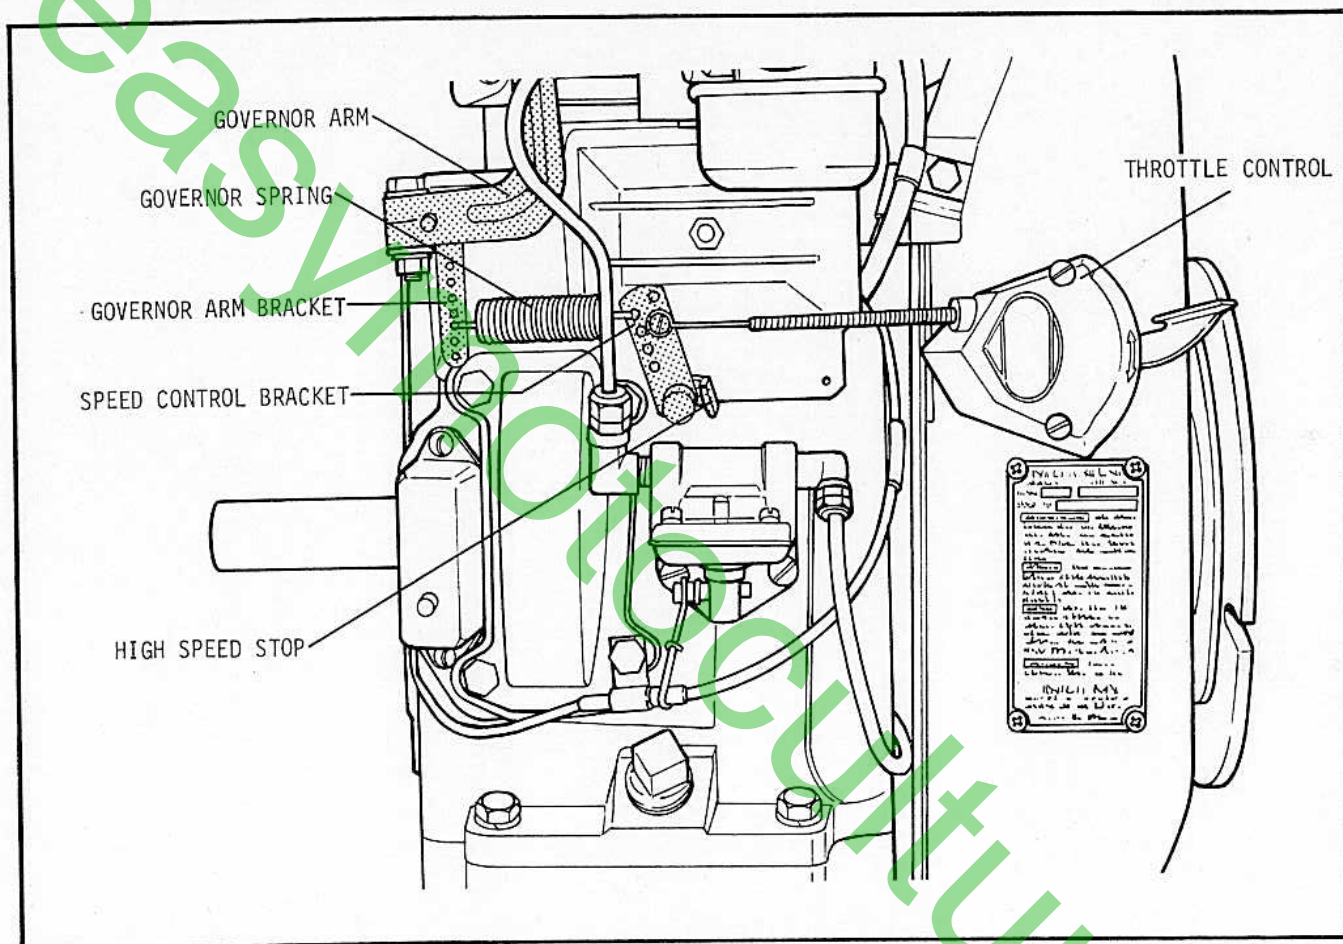

FIGURE 5-6 -- VARIABLE SPEED GOVERNOR - K241, K301, K321
STEP 1: Mount throttle control on blower housing as shown in Figure 5-6.
Variable Speed: Loosen capscrew and move high speed stop bracket until correct speed is attained then retighten capscrew. (See Figure 5-6)